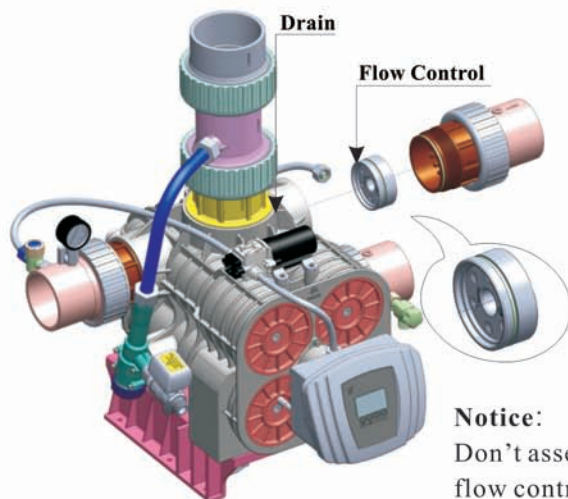

Figure 1-4
③ Install drain pipeline (If no special request, the injector is 7804)
- c. As Figure 1-4 shows, unscrew the drain connector with a wrench, take out the drain line flow control, and replace it with the one meets the requirements. (Please drill holes according to P30)